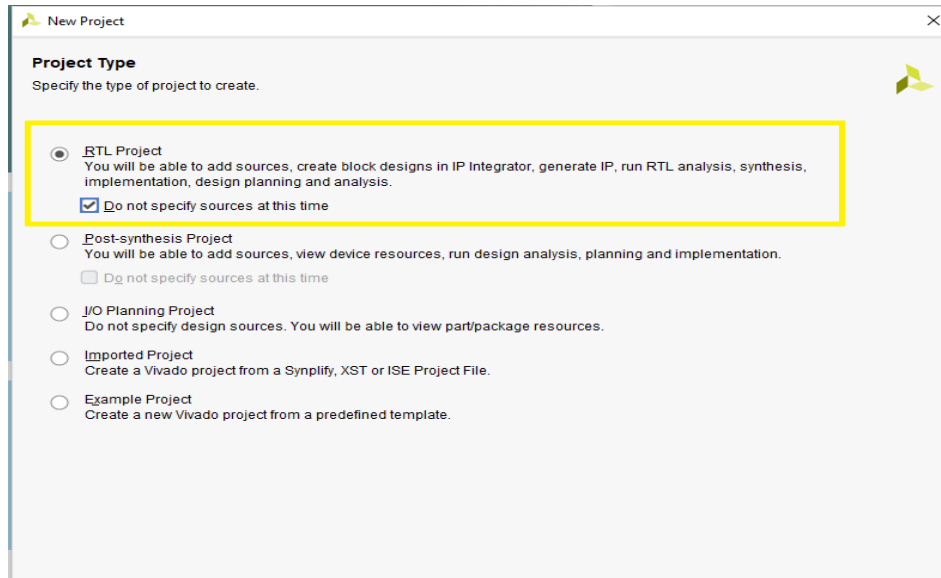

Fig. 2.3: Project Type Dialog Box
3. A *Project Type* dialog box will appear. Select *RTL Project* and check the *Do not specify sources at the time* box. Click *Next* to continue. (Fig. 2.3.)